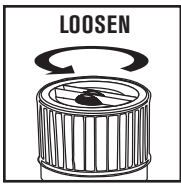

FIGURE 23
35. To remove the filter for cleaning, again hold the tank cover and turn the filter retainer counter-clockwise to loosen and remove, slide the cartridge filter off the lid cage. **FIGURE 23, 24.**